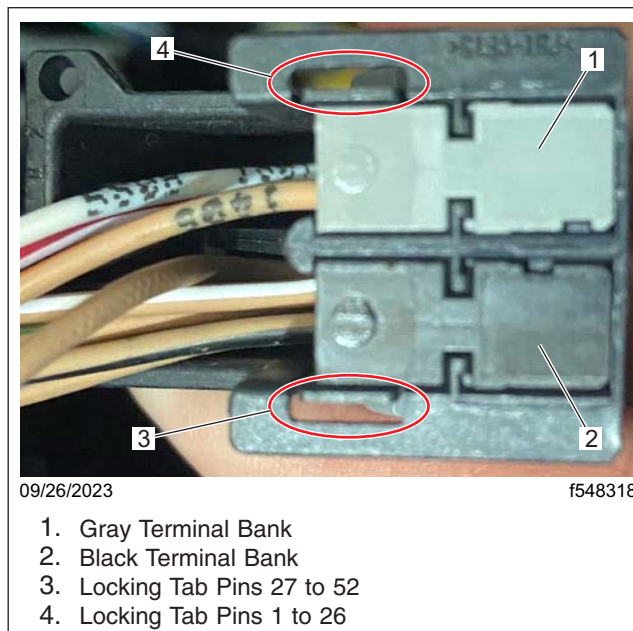

Fig. 49, XMC2 X2 Connector Terminal Bank and Locking Tab Location
18. Orient the XMC2 X2 connector as shown in Fig. 49. The modular X2 connector has two terminal banks, one gray (pins 1–26) and one black (pins 27–52). Note the locking tab location for the black terminal bank (pins 1–26). The black terminal bank has to be removed for the steps that follow.